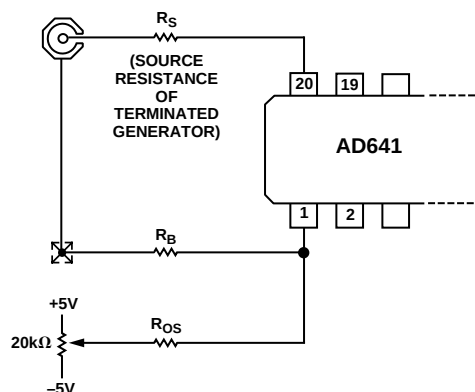

Figure 25. Optional Input Offset Voltage Nulling Circuit; See Text for Component Values
In most applications there will be no need to use any offset adjustment. However, a general offset trimming circuit is shown in Figure 25. R_S is the source resistance of the signal. *Note: 50 Ω rf sources may include a blocking capacitor and have no dc path to ground, or may be transformer coupled and have a near zero resistance to ground.* Determine whether the source resistance is zero, 25 Ω or 50 Ω (with the generator terminated in 50 Ω) to find the correct value of bias compensating resistor, R_B , which should optimally be equal to R_S , unless $R_S = 0$, in which case use $R_B = 5\text{ }\Omega$. The value of R_{OS} should be set to 20,000 R_B to provide a $\pm 250\text{ }\mu\text{V}$ trim range. To null the offset, set the source voltage to zero and use a DVM to observe the logarithmic output voltage. Recall that the LOG OUT current of the the AD641 exhibits an *absolute value response* to the input voltage, so the offset potentiometer is adjusted to the point where the logarithmic output "turns around" (reaches a local maximum or minimum).
Cascaded AD641s can be used in dc applications, but input offset voltage will limit the dynamic range. The dc intercept is 6 μ V. *The offset should not be confused with the intercept*, which is found by *extrapolating* the transfer function from its central “log linear” region. This can be understood by referring to Equation (1) and noting that an input offset is simply additive to the value of V_{IN} in the numerator of the logarithmic argument; it does not affect the denominator (or intercept) V_X . In dc coupled applications of wide dynamic range, special precautions must be taken to null the input offset and minimize drift due to input bias offset. It is recommended that the input attenuator be used, providing a practical input range of -74 dBV (± 200 μ V dc) to $+6$ dBV (± 2 V dc) when nulled using the adjustment circuit shown in Figure 25.